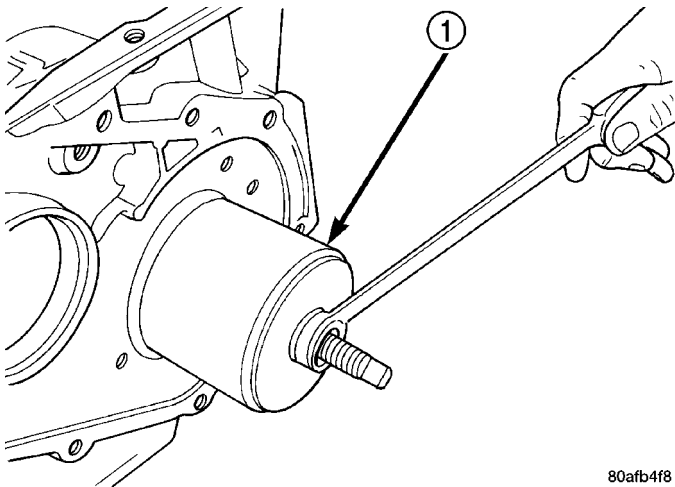

Fig. 84 Remove Output Bearing Outer
(67) Using tool 6062, remove outer output bearing cup (Fig. 84).